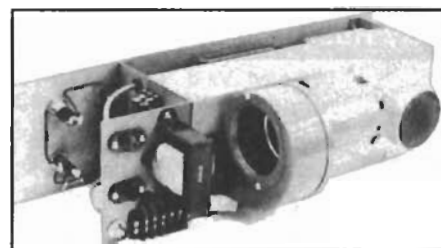

Fig 7—Rear view of the amplifier with the plate-compartment cover in place. Note the honeycomb RFI filter at the hot-air exhaust.
Fig 7—Parts-placement diagram for the VHF preamplifier. Mount all components on the unetched ground-plane side except for C30 and C31. Use a drill to clear the foil away from all mounting holes on the ground-plane side of the board (except for through-board ground connections). Solder all ground connections on both sides of the PC board (see text for rivet-installation instructions). Solder a brass-strip shield to the ground foil between L1 and Q3 on the component side of the PC board.
- C7—Output-loading capacitor; see text and Figure 7 for details
- J2—Type-N connector fitted to output coupling assembly (see Figure 7)